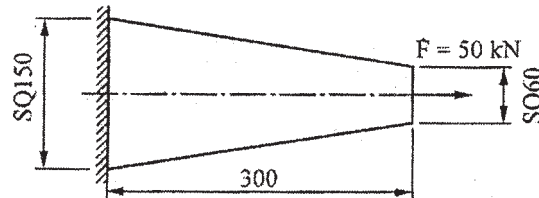

Fig. 2
- Q4) a) A tapered bar is shown in Fig 2. Model the bar by considering it as made of two elements and determine the deflections. Assume the modulus of elasticity as 200 GPa. [8]